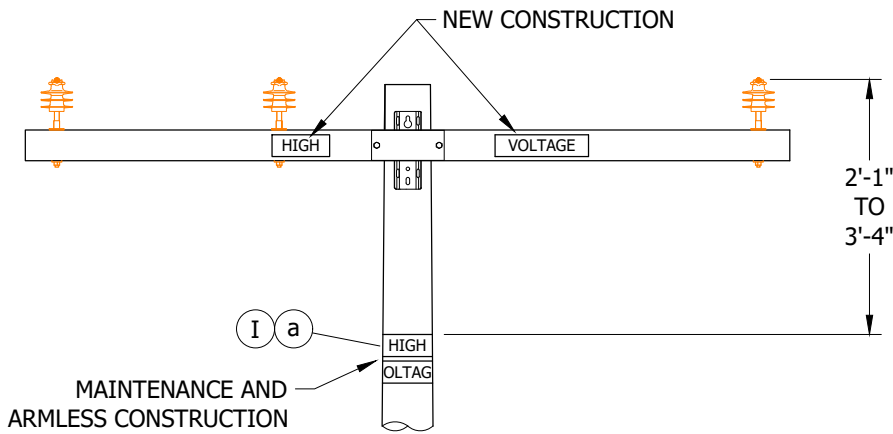

FIGURE 1
- I. CORRECTIVE MAINTENANCE: BROKEN, DETERIORATED OR MISSING CROSSARM "HIGH VOLTAGE" SIGNS MAY BE REPLACED ON THE POLE. THIS IS TO ENSURE THAT A SINGLE Q.E.W. MAINTAINS THE MINIMUM APPROACH DISTANCE FOR 12KV. THE SIGN SHALL BE PLACED NO MORE THAN 40 INCHES BELOW THE LOWEST CONDUCTOR OF THE LOWEST CIRCUIT (SEE FIGURE 1).